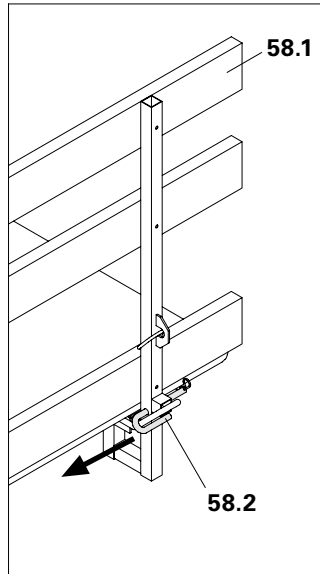

Fig. A13.05
1. Remove securing pin and cotter pin (58.2). (Fig. A13.05)